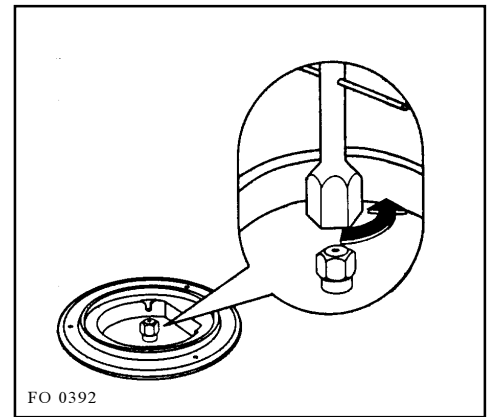

Fig. 7
- With a socket spanner 7 unscrew and remove the injectors (Fig. 7), and replace them with the ones required for the type of gas in use (see table on the next page).